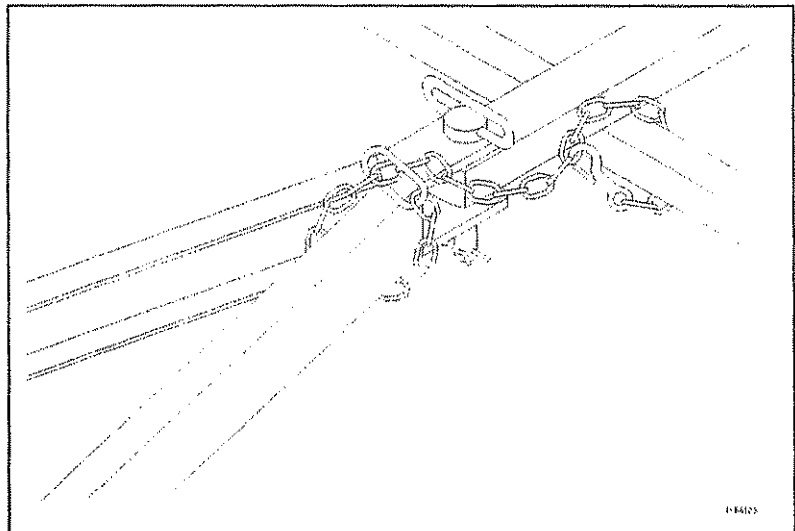

Figure 2B - Attaching the Safety Chain
1. Refer to Figure 2B for an illustration of the hook-up of the safety chain.